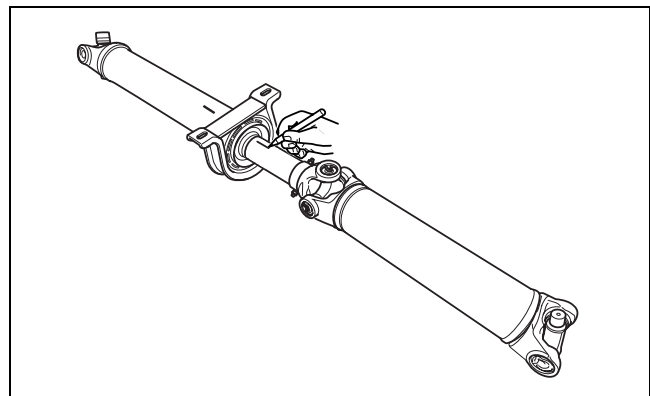

Figure 8.17
1. Mark the slip yoke and slip shaft sections to ensure that you reassemble them into their original positions. Figure 8.17.